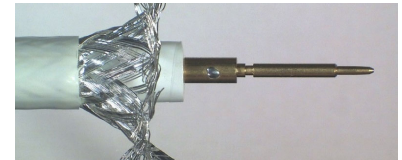

Figure 4
- 6) Install the connector body over the contact and dielectric, under the shields, until the center contact is fully seated by snapping into place (Fig. 4). Verify that the center contact is captivated.
- 7) Smooth all braids and helical strip down over the rear of the connector body covering the knurl, maintaining braid weave as much as possible (Fig. 4). Trim off stray braids at the shoulder.